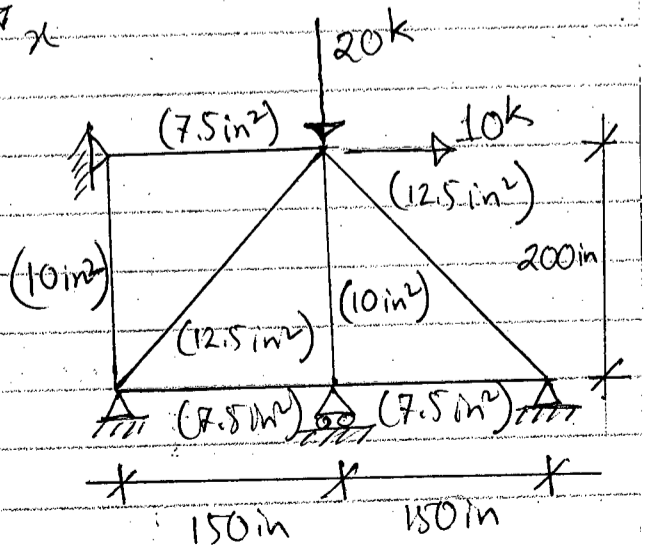

Fig. 12
7. (a) Write down the Stiffness equations in matrix form for the truss shown in Fig. 12. Given:  $E = 30,000 \text{ ksi}$ . (21 2/3)